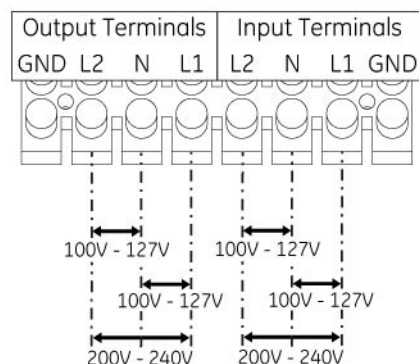

fig. 3.3.9.e
6. Re-install the terminal cover (fig. 3.3.9.e).